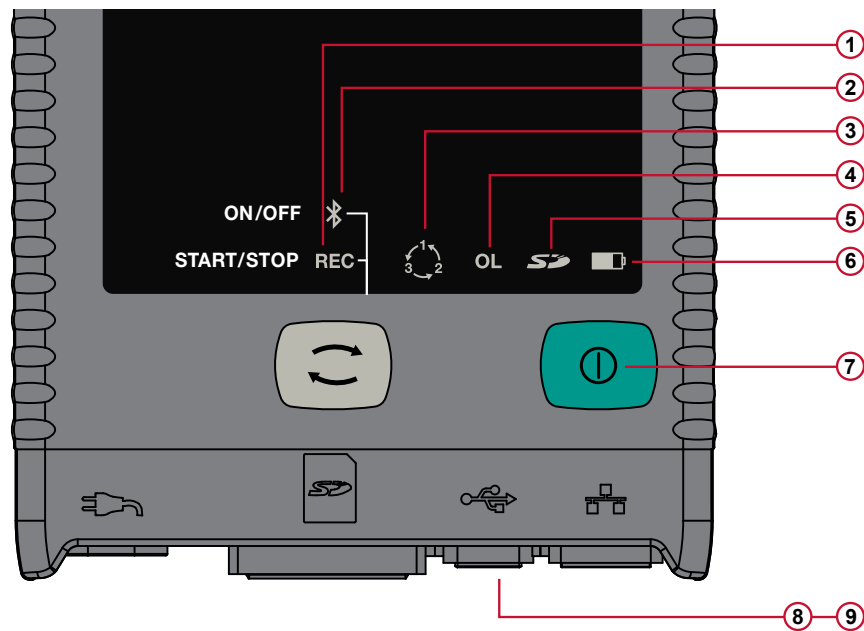

Figure 8
- ① Four voltage input terminals.
- ② Three current input terminals.
- ③ Rigid molded casing over-molded with thermo-adhesive rubber.
- ④ Digital LCD displaying measured, calculated and parameterizing quantities (see § 2.9).
- ⑤ Two (PEL 102) or Four (PEL 103) function buttons (see § 2.8).
- ⑥ Nine LEDs for status information (see § 2.10).
- ⑦ Connections for USB, Ethernet, SD memory card and terminal cover caps.
- ⑧ Standard (IEC C7 figure 8 terminal – non polarized) power connector for 110/250 VAC power source.
The Yellow/Red LED (see #6 Figure 8) is used to indicate the status of the battery.
- The green REC LED (see #1 Figure 8) will light up for 3 s, followed by the lighting of the blue Bluetooth LED (see #2 Figure 8) for 3 s - one after another. During the time these LEDs are lit, you will be able to control their respective function as described below.